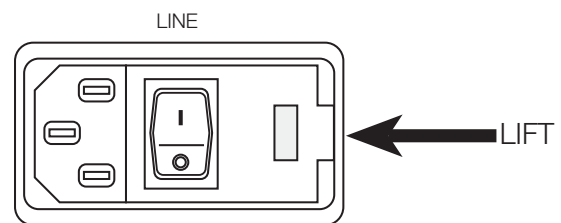

Figure 6-2. Cover of SP2200 Fuse Compartment
2. Use a small, flat-head screwdriver to lift the cover of the fuse compartment (see Figure 6-2).